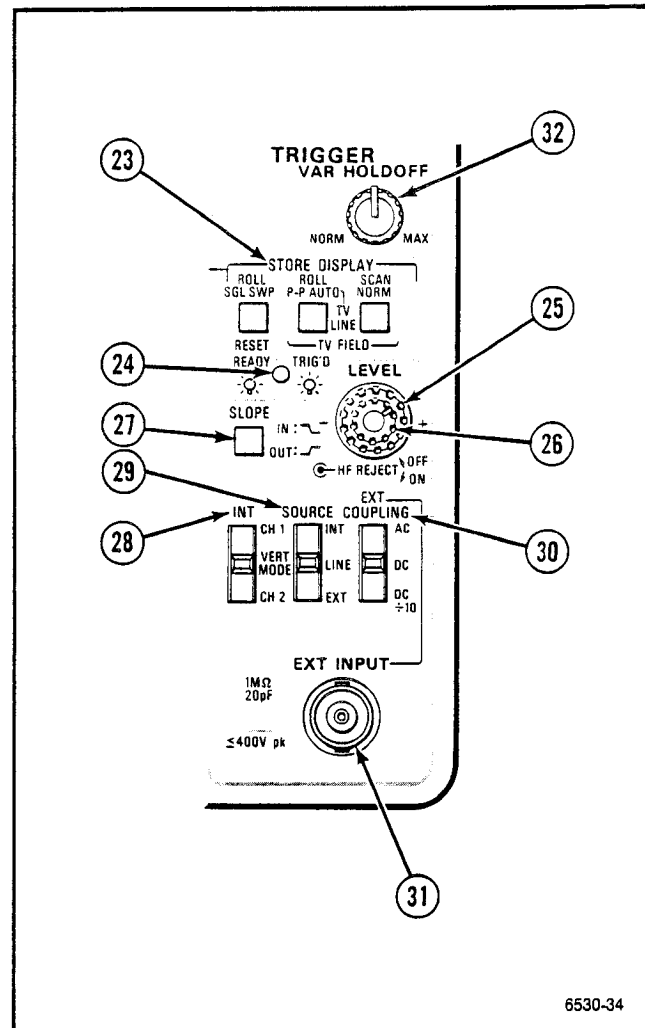

Figure 3-4. Trigger controls, connector, and indicator.
See Figure 3-4 for the location of items 23 through 32.